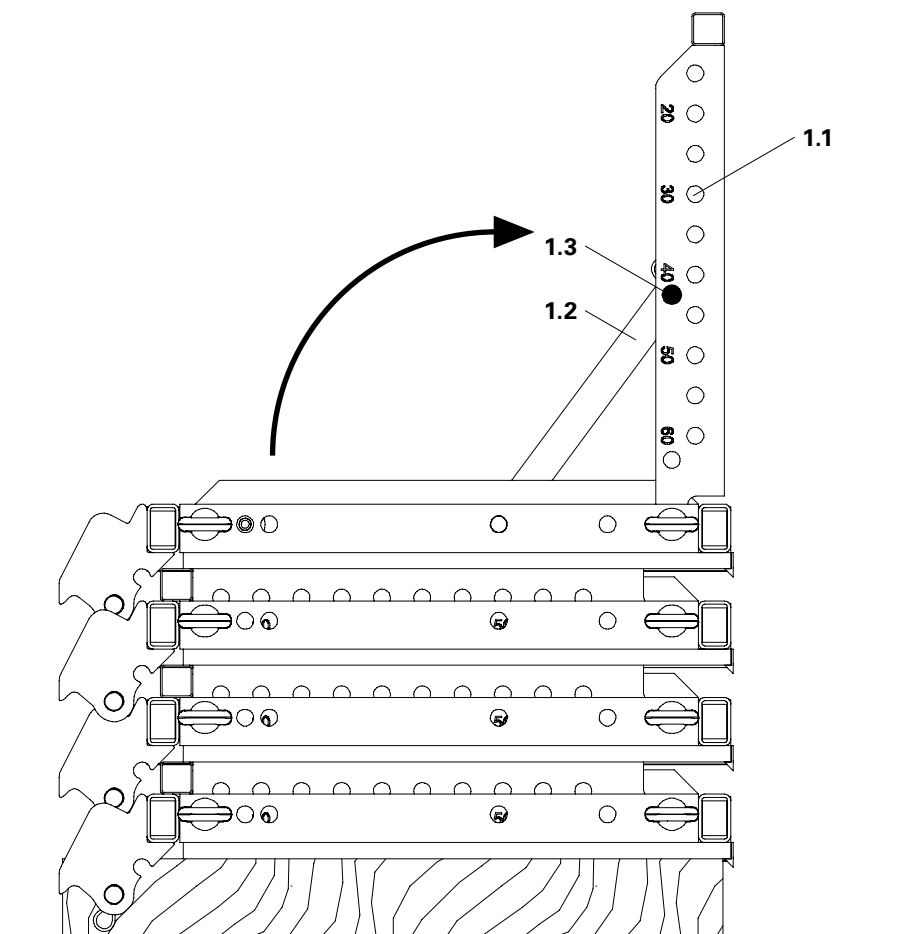

Fig. A3.02
3. Secure with bolts  $\text{Ø } 20 \times 140$  (1.3) and cotter pins 4/1. (Fig. A3.02)